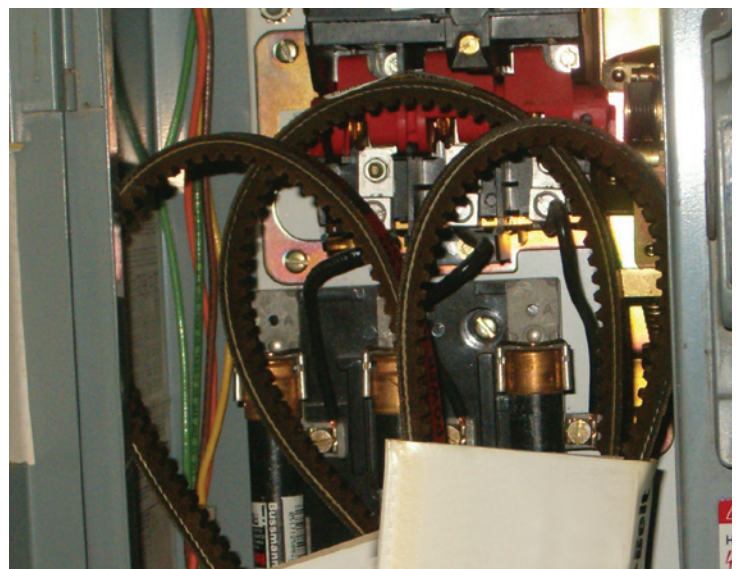

Figure 5 – Combination starter/disconnect being used as parts storage
- Disconnects and combination starters used as parts storage (Figure 5)